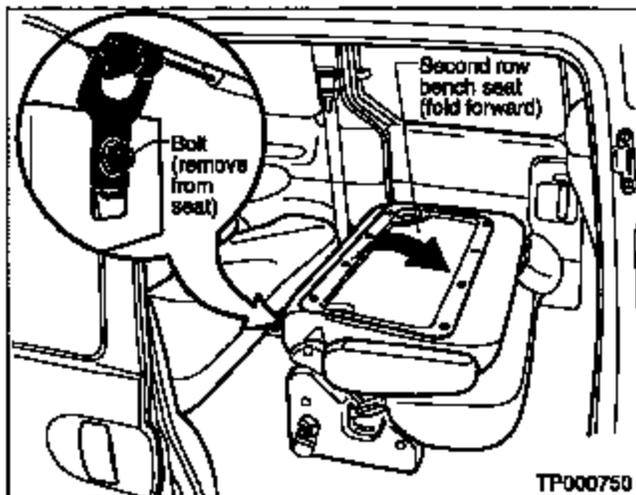

Figure 8
1. Fold the top half of the second row bench seat forward (see Figure 8).
2. Unscrew the bolt and remove the seat belt buckles (see Figure 8).